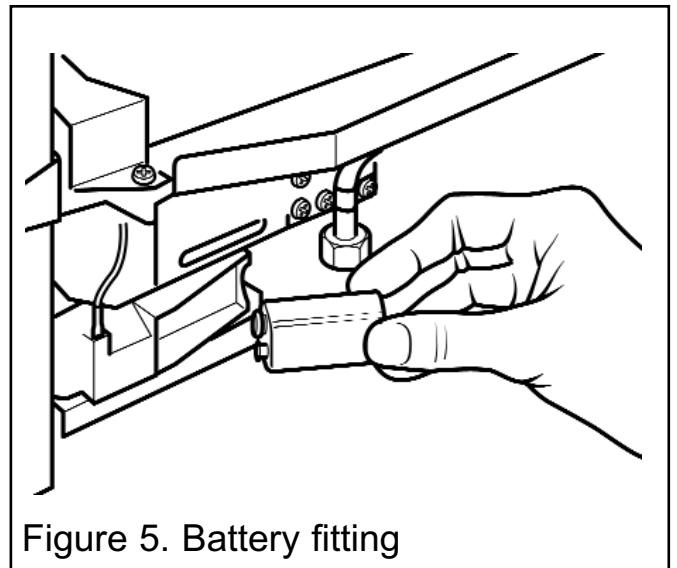

Figure 5. Battery fitting
- Fit the new battery firmly to the connections on the ignition block (See figure 5).